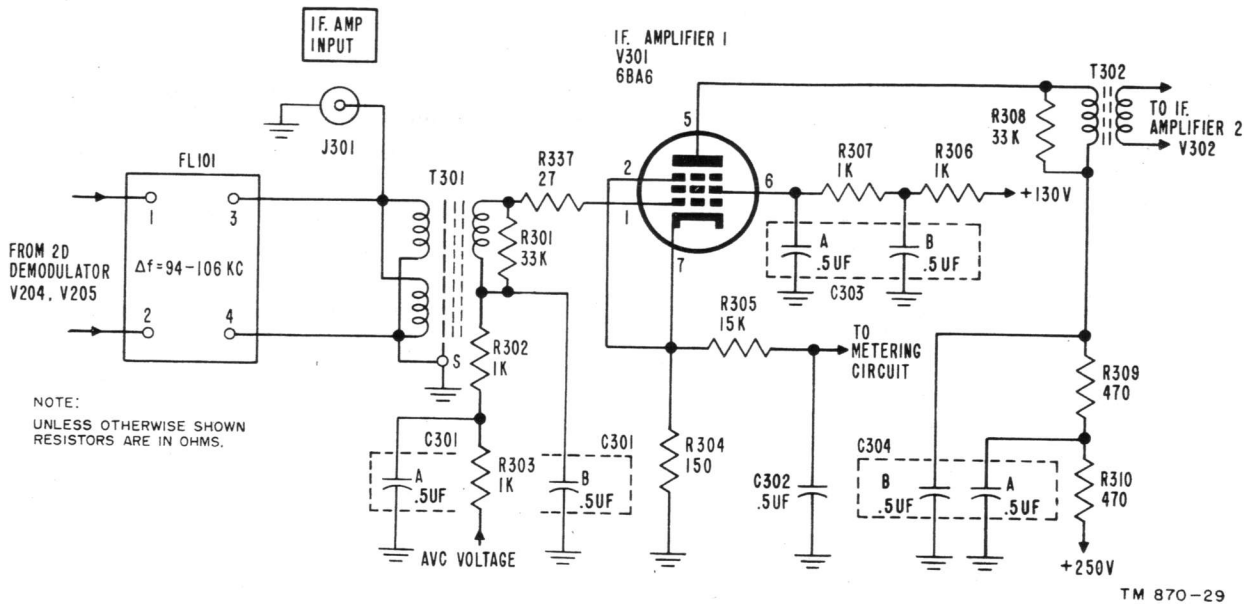

Figure 37. First if. amplifier, schematic diagram.
a. The second demodulator, V204 and V205, is a balanced demodulator which utilizes two miniature type 6AS6 tubes. The signal voltage of 2.8-mc amplifier V203 is mixed with the output voltage of 2.7-mc second beat oscillator V208 and the output is filtered, leaving only the 100-kc signal. This signal passes through transformer T201 and 94- to 106-kc filter FL101 (fig. 37) to if. amplifier 1 (V301).
c. Transformer T201 couples the 100-kc signal to filter FL101, which has a bandwidth approximately 12 kc. Only the 100-kc signal with the associated sidebands is passed to if. transformer T301 (fig. 37).
(fig. 37)